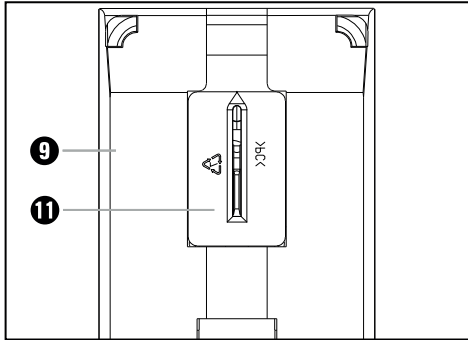

Fig. 1: Fitting the splinter guard
- ◆ Press the splinter guard **11** into the footplate **9** from below (arrow pointing upwards). The ▲ marking on the splinter guard **11** points towards the front of the appliance (see also fig. 1).